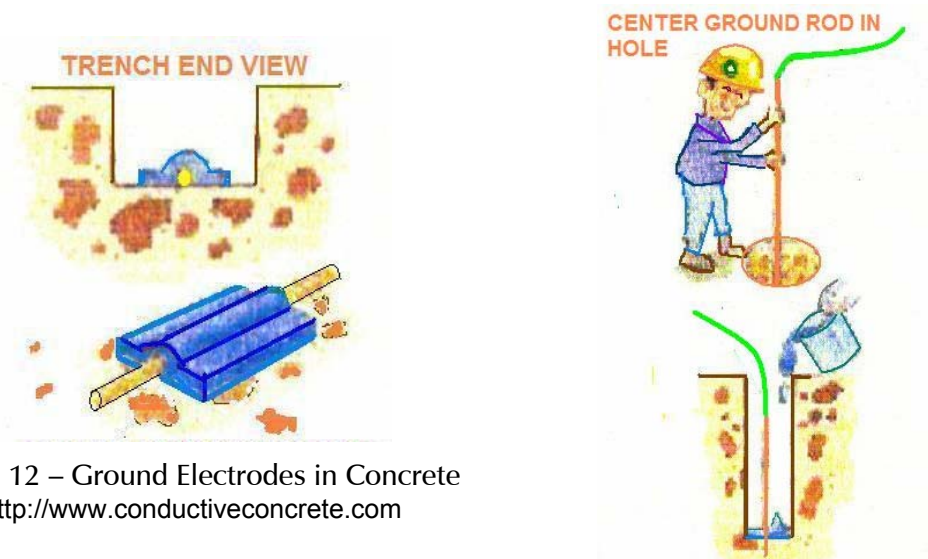

Figure 12 – Ground Electrodes in Concrete
6. Increasing the surface area in contact with the earth, or by using an electrode of greater cross-section of greater length, or by means of a Ufer (a ground electrode buried in concrete). (Fig 12)
The resistivity of various types of concrete varies over at least four orders of magnitude, depending on the formulation and how it is poured. Some concretes are specifically designed to be conductive, and can be used to encase the grounding electrode (Figure 12),